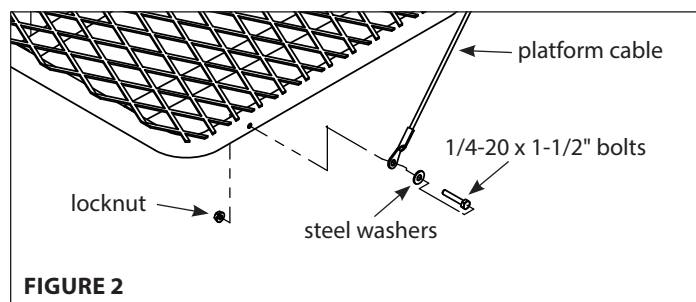

FIGURE 2
3. Bolt cables onto platform using the (2) provided 1/4 x 1-1/2" bolts, locknuts and steel washers. **SEE FIGURE 2. You must now tighten all nut & bolt assemblies. Be sure not to over tighten or crush tubing when tightening!**